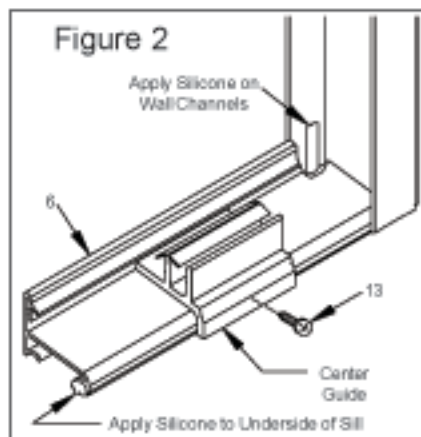

Figure 2
- Insert clip (22) into curb channel and apply a layer of silicone to curb where 90 post will set. Set corner post (19) in place over edge of panel glass and curb clip, hold plumb and insert vertical seal vinyl (27) into post and curb channel on both sides of panel glass.
- Measure from inside of wall jamb to inside of 90 post and use this measurement to cut sill (6) to length. Run a bead of silicone full length to underside of sill and apply silicone in corners where wall jamb and corner post meet curb and press guide firmly into place on curb (See Figure 2).
- Assemble header (8) using 90 clips (28) and #6 x 3/8" SMS (13). Measure from both walls to outside corner of corner post (plumb in both directions) and add 3/16" to this measurement for header length. Cut header to length and set in place over jamb (1), corner post (19) and wall channel (21). Secure header to jamb and corner post from inside of shower and to clip (23) attached to wall channel with #6 x 3/8" SMS.
- To set slider glass in place, hold inside slider panel (16) inside of tub or shower pan, insert rollers up into header and lower into place. Next, insert lower end of outside slider (17) in front of